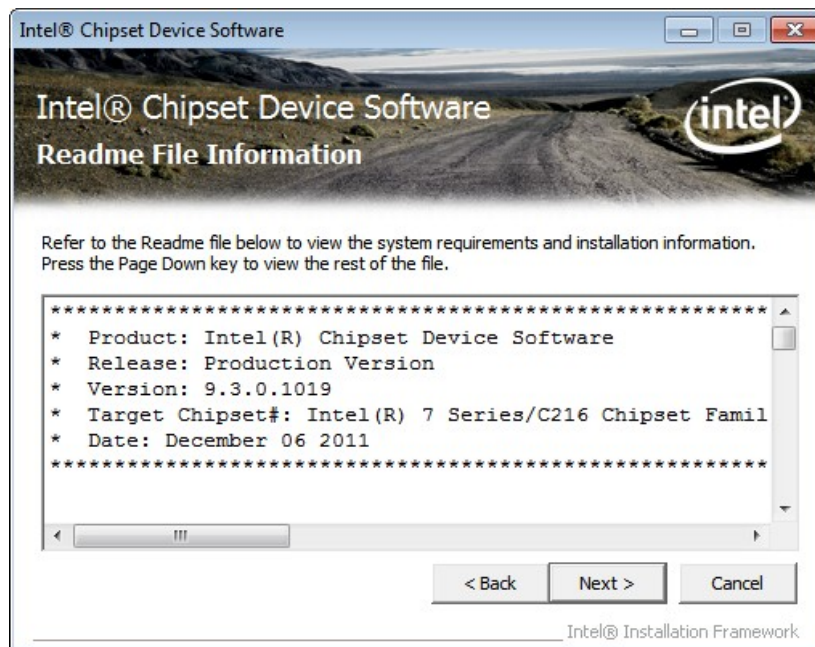

Figure 6-5: Chipset Driver Read Me File
Step 9: The **Read Me** file in **Figure 6-5** appears.